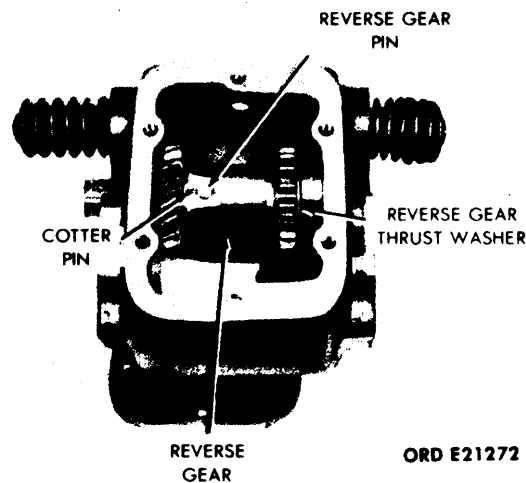

Figure 5-12. Removal of Reverse Gear.
(1) Remove the cotter pin securing the reverse gear pin and remove the reverse gear pin. (See fig. 5-12.)
(2) Using a soft drift pin, tap the reverse gearshaft and front roller bearing from the case. Remove the front roller bearing from the shaft.
(3) Remove the reverse gear thrust washers (fig. 5-12).
- d. Reverse gear. (See fig. 5-12.)